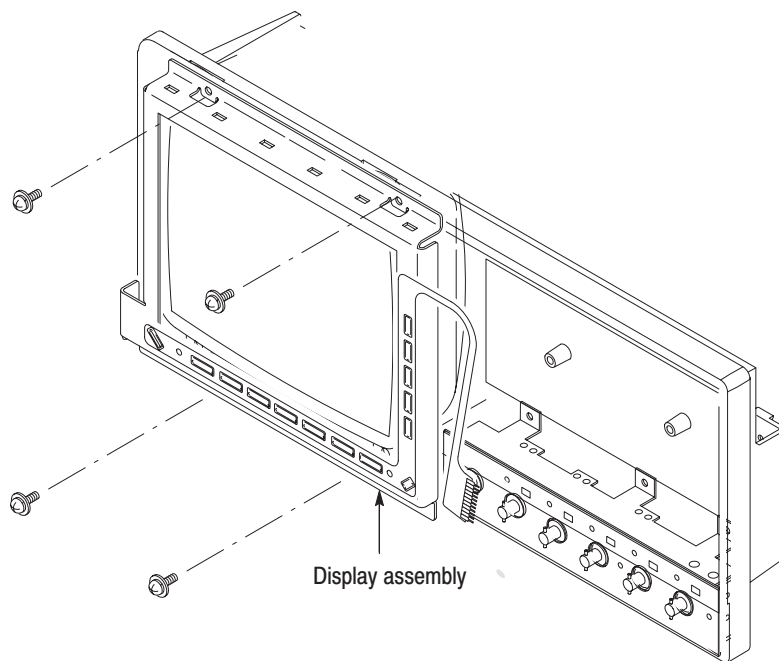

Figure 6–16: Display assembly removal
1. Locate the modules to be removed (see Figure 6–3 on page 6–13).
3. Orient the waveform generator so that its bottom is down on the work surface and its front panel is facing you (see Figure 6–16).
1. Locate the Power Supply (see Figure 6–3 on page 6–13).
3. To remove the low-voltage power supply, unplug four power cables from J3 on the A10 Connector board and J1, J2 and, J4 on the A50 Sequence board. See Figure 6–17.
3. To disconnect the *A10 Connector Board*, disconnect the following cables and connectors. See Figure 6–18 as a guide.